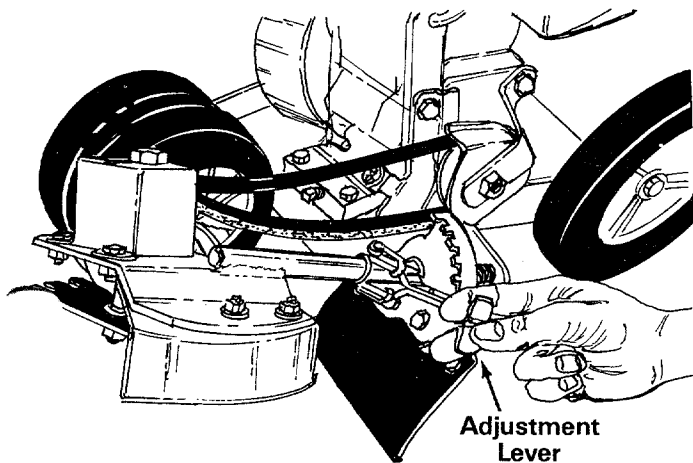
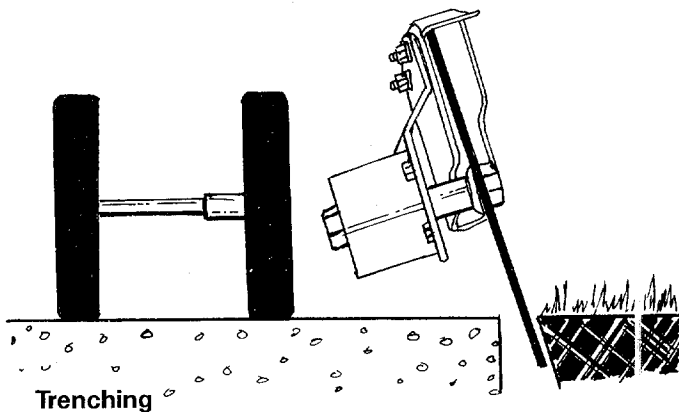

FIGURE 13
FIGURE 17
The cutting blade can be adjusted to eight positions from vertical to horizontal. To adjust, release the adjustment lever on the pivot bracket and rotate the blade housing. Place adjustment lever in notch desired. See figure 13.
2. Set the adjustment lever (refer to figure 13) in the first notch at the top for trenching. See figure 17.